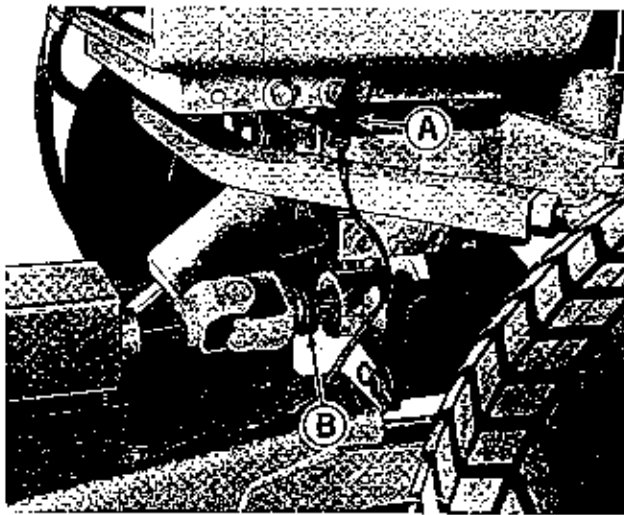
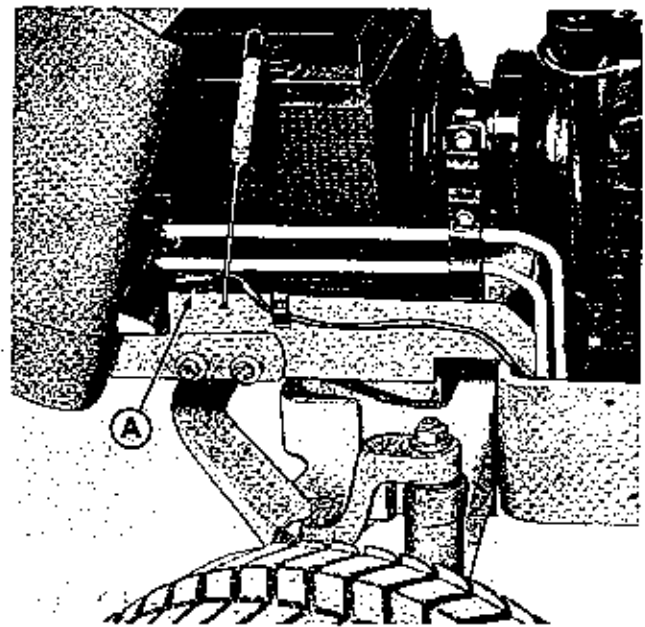
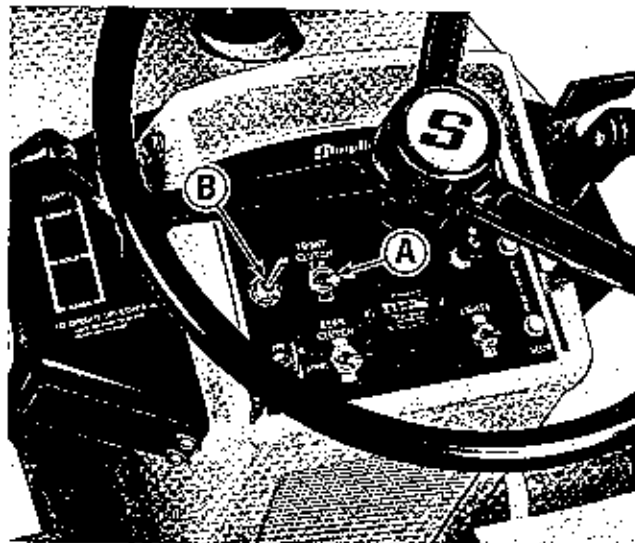

Figure 8. Drive shaft locking ring shown in locked (operating) position.
Figure 9. Left side of tractor showing spout control cable in storage position.
Figure 12. Tractor dash viewed from operator's position.
11. See figure 8. Pull back (toward the snow thrower) on locking collar (A) so it is positioned as shown. Slide drive shaft (E) onto the spline.
12. See figure 8. After sliding the drive shaft completely onto the spline, push locking collar (B) toward the back of the tractor to lock the drive shaft in place. Check to be
13. See figure 8. Route the spout control electrical wiring as shown, connecting it at (A). If the spout control wiring and switch (figure 12, item B) have not been installed on your tractor, request the assembly instructions provided with the snow thrower from your Simplicity dealer.
3. See figure 8. Disconnect the electric wiring at (A) and store it on the tractor as shown at (A) in figure 9.
See figure 12. The tractor engine should be operating at $1/2$ to $3/4$ throttle when the snow thrower is engaged. To engage the snow thrower drive, push forward on the **FRONT CLUTCH** switch (A). **CAUTION: IF THE SNOW THROWER DRIVE SHOULD BEGIN TO SLIP WHEN THE POWER TAKE OFF IS ENGAGED, DISENGAGE THE FRONT CLUTCH IMMEDIATELY TO PREVENT DAMAGE TO THE SNOW THROWER DRIVE BELT OR THE POWER TAKE OFF CLUTCH.** Refer to the Trouble Shooting Guide on page 7 for possible causes and corrections.
See figure 12. The spout control switch (B) is used to rotate the snow thrower spout to the left and right to control the throwing direction. Simply push the switch to the left to rotate the spout to the left or to the right to rotate the spout to the right. The spout will automatically stop turning as soon as the switch is released. Whenever possible begin snow removal on the upwind side of the sidewalk or driveway so it is not necessary to blow snow over an area already cleared.